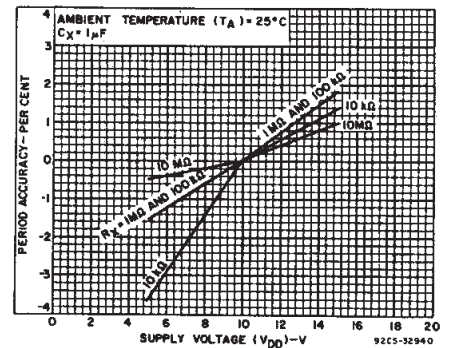

Fig. 11—Typical astable oscillator or Q,  $\bar{Q}$  period accuracy vs. supply voltage.
**B. Variations Due to  $V_{DD}$  and Temperature Changes** — In addition to variations from unit to unit, the astable period varies with  $V_{DD}$  and temperature. Typical variations are presented in graphical form in Figs. 11 to 18 with 10 V as reference for voltage variations curves and 25°C as reference for temperature variations curves.